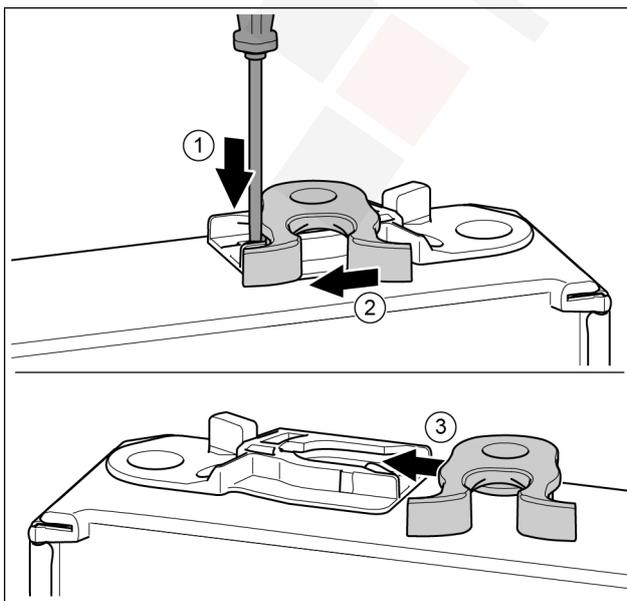

Fig. 33 \*
- ▶ Push the tab downwards with a slotted screwdriver. Fig. 33 (1) \*
- ▶ Pull the door latch out of the guide. Fig. 33 (2) \*
- ▶ Push the door latch into the guide on the other side. Fig. 33 (3) \*